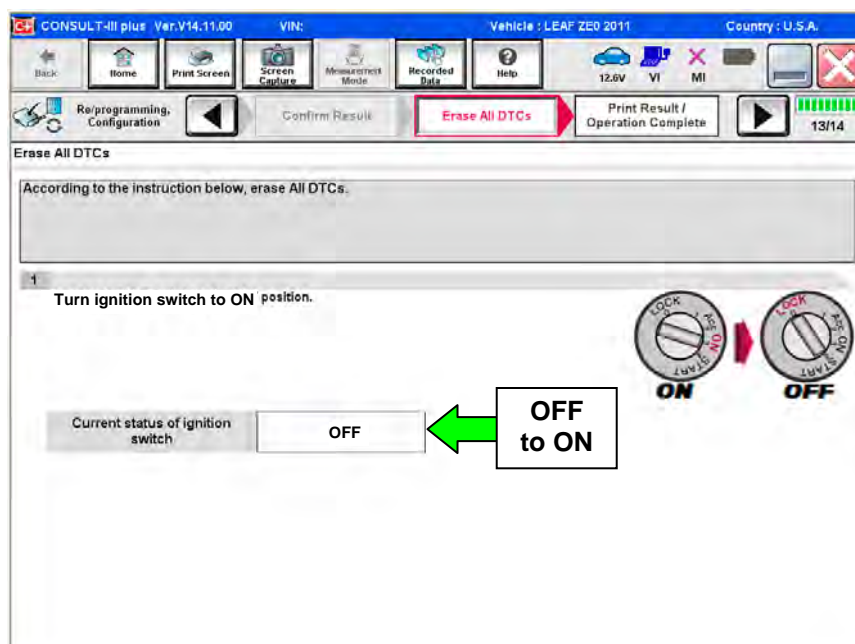

Figure 19
- The screen in Figure 19 will read **ON** after pressing the power switch twice.